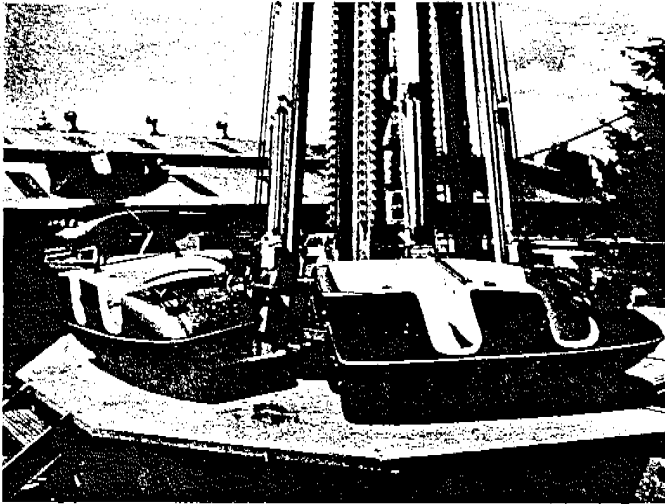

Fig. 33
a. Unbolt the two inside cars on the platform and set them out of the way. (Fig. 33)